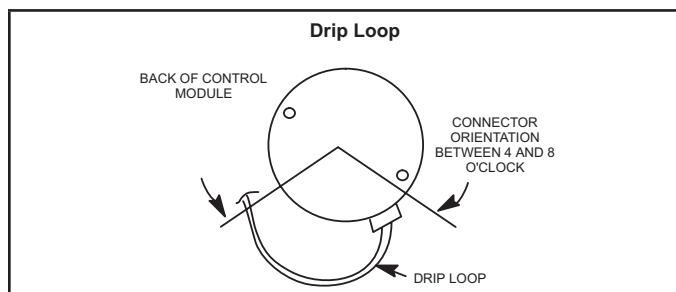

FIGURE 17
- 5 - The electrical connectors of the motor should be facing down to form a drip loop (figure17). This will directs moisture away from the motor and its electric connections on the motor.